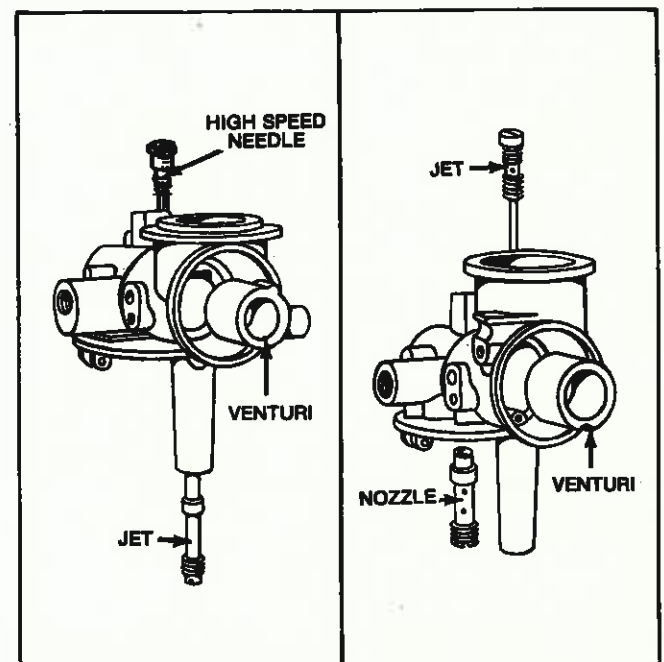

Fig. 76 — Repair Carburetor
Use new parts where necessary. Always use new gaskets. Carburetor repair kits are available. See illustrated parts list for particular model. If throttle shaft and/or venturi has been removed, install throttle and throttle shaft first. Then install venturi. Now install jet on small one piece or nozzle on large one piece Flo-Jet. The nozzle or jet holds the venturi in place, Fig. 76. Replace choke shaft and valve. Install new welch plug using sealer around edge of plug. Stake plug in two (2) places. Sealer is to prevent entry of dirt into engine. Install float bowl, idle and high speed adjustment needles.